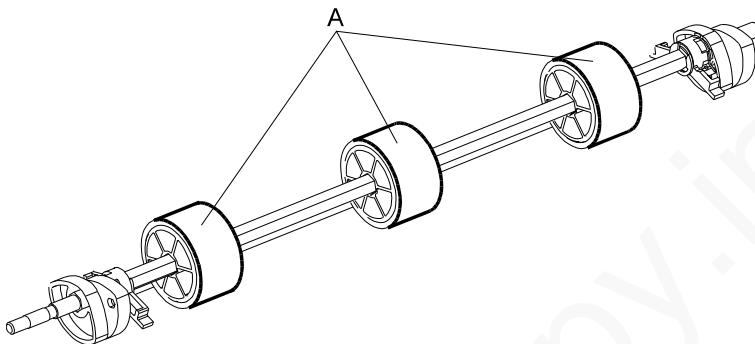

Fig. 7-44
- 2) Replace elastic rings **A** covering the paper shifter rollers (Fig. 7-44):